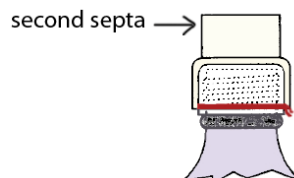

Fig. 4B For long-term storage, use a second septa
- For extra protection, a second same-sized septa (sans holes) can be placed over the first (figure 4b).